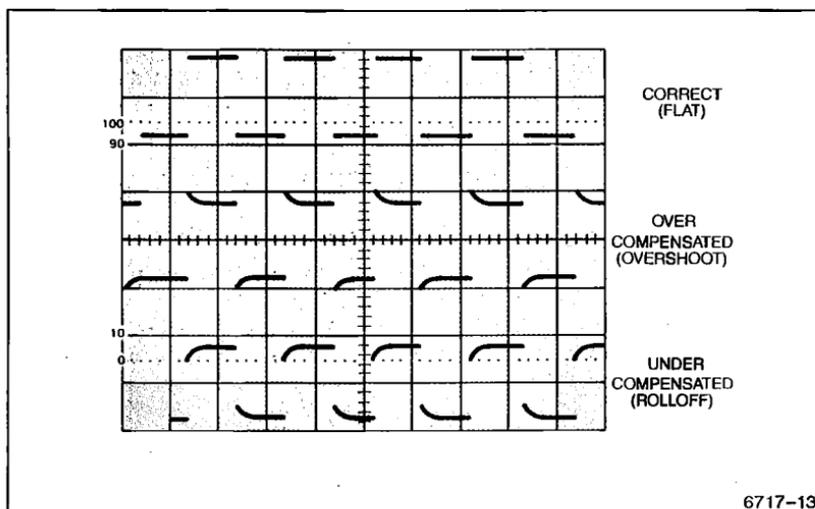

Figure 4-1. Probe compensation.
7. Check the waveform presentation for overshoot and rolloff (see Figure 4-1). If necessary, perform step 8 to adjust the probe low-frequency compensation. Otherwise, proceed to step 9.
8. Rotate the sleeve on the probe head to expose the LF COMP adjustment capacitor (see Figure 4-2). Use a low-reactance alignment tool to adjust LF COMP and obtain a square, or nearly square, front corner on the waveform tops (Figure 4-1, top trace).